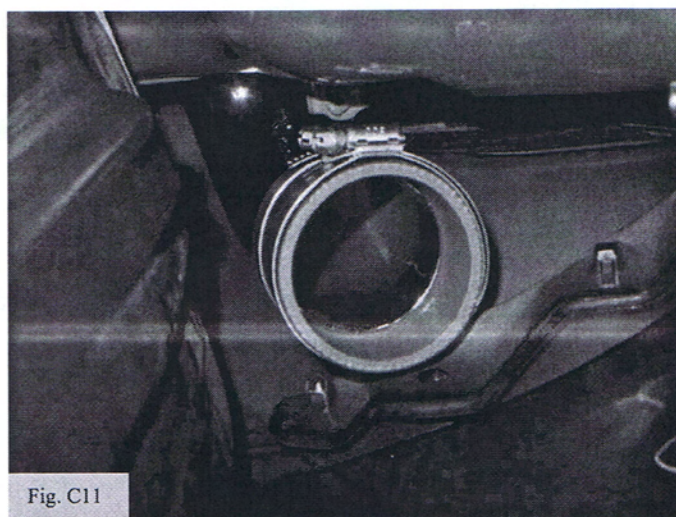

Fig. C11
12. Install the small coupler to the Middle Intake Pipe. Install (1) clamp and tighten. (Fig. C11)
- ii. Slide the second clamp into place but do not tighten. (Fig. C11)